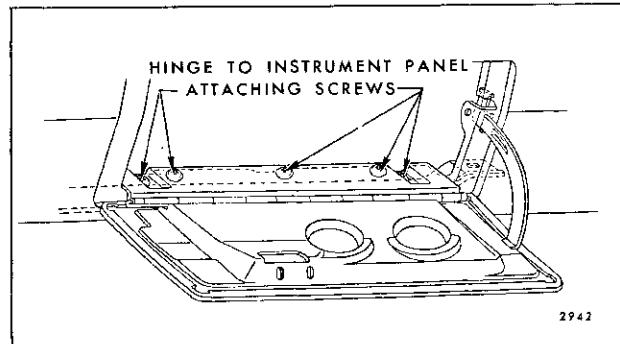

Fig. 5-7—Instrument Panel Compartment Door—"A" Styles
To remove the door assembly, remove attaching screws securing the hinge to the instrument panel (Fig. 5-7) lift door, and rotate counter-clockwise to remove stop from opening in the instrument panel. To install, reverse removal procedure.
2. On all styles, to move the door in or out, loosen hinge to instrument panel screws and position door as desired (Figs. 5-7 and 5-8).
3. On all styles, to move the door right or left, loosen hinge to instrument panel screws and position door as desired (Figs. 5-7 and 5-8).